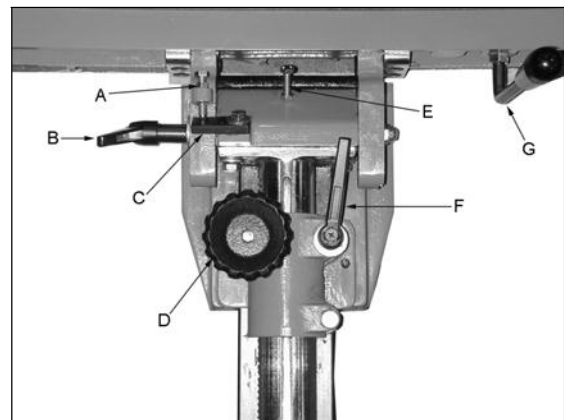

Fig. 5
The width adjustment handwheel (D, Fig. 5) will need to be installed.
The various adjustments, locks and handles are shown in Fig.5.
2. Loosen the angle lock handle (B, Fig. 5).
To tilt the fence, see Fig.5. Loosen angle lock handle 'B', flip up the stop 'C', and tilt the fence with the fence angle adjusting handle 'G' to the desired angle. Use a protractor or adjustable triangle to set the angle. A 45 degree stop, 'E' is provided for quick set-up at this angle.